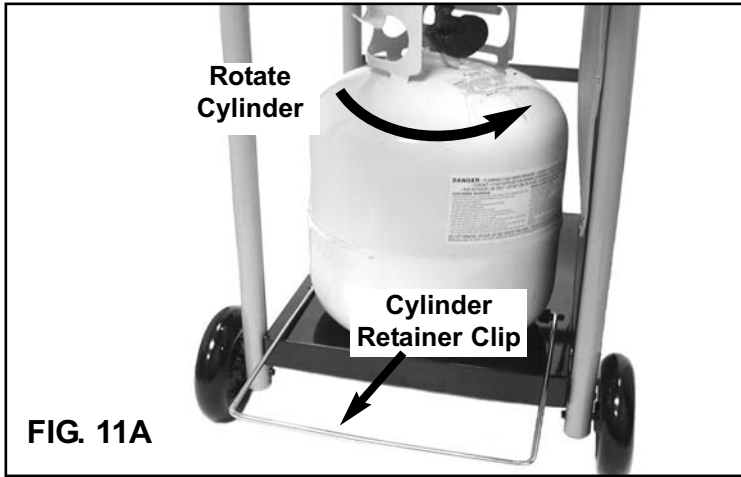

FIG. 11A
- 3) Lift and swing LP Cylinder Retainer Clip to outside of grill. Set LP cylinder in the large hole inside the Bottom Shelf. Rotate the LP cylinder toward the front of grill so regulator hose may connect. (FIG. 11A)